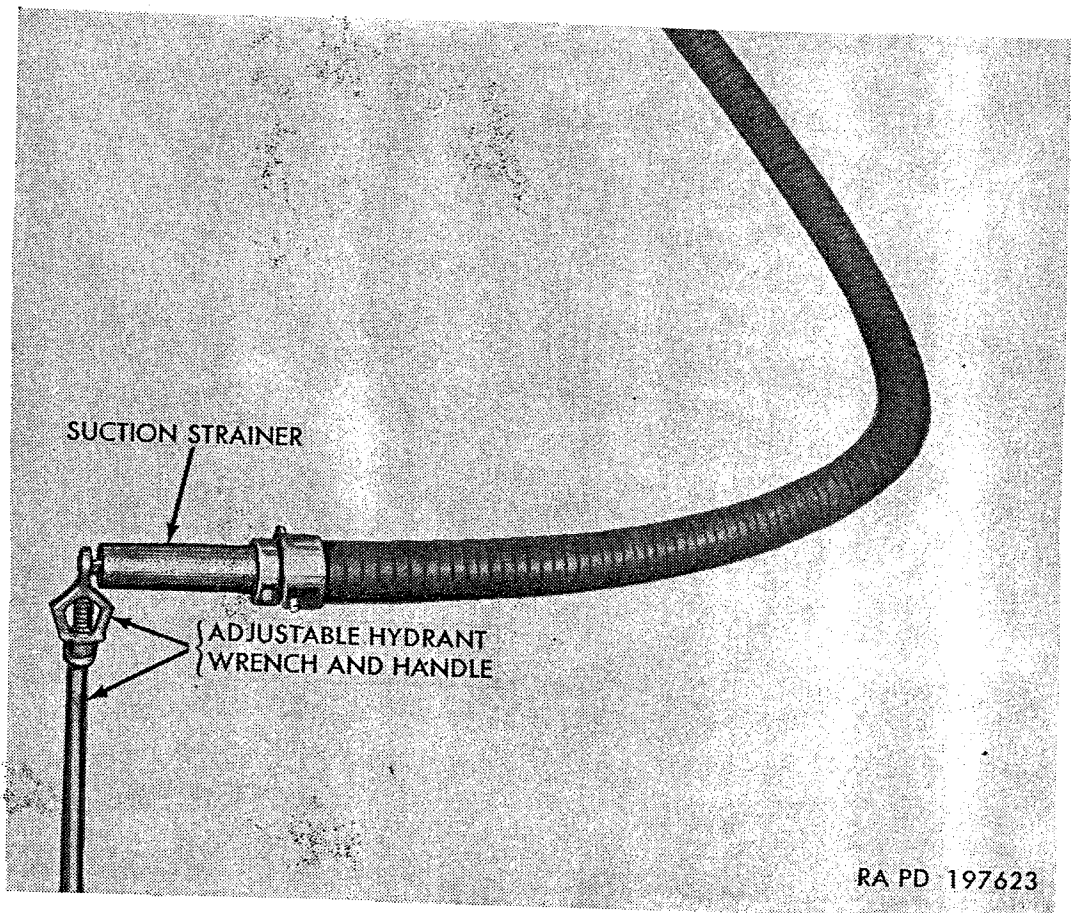

Figure 57. Use of suction strainer with adjustable hydrant wrench and handle.
- (b) If outside source of supply is a stream, lake, or river, attach suction strainer (J, fig. 54) to end of suction hose. Use the adjustable hydrant wrench and handle (fig. 57) as a support to prevent strainer from being imbedded at bottom of stream. If the outside source is a tank, the support need not be used.